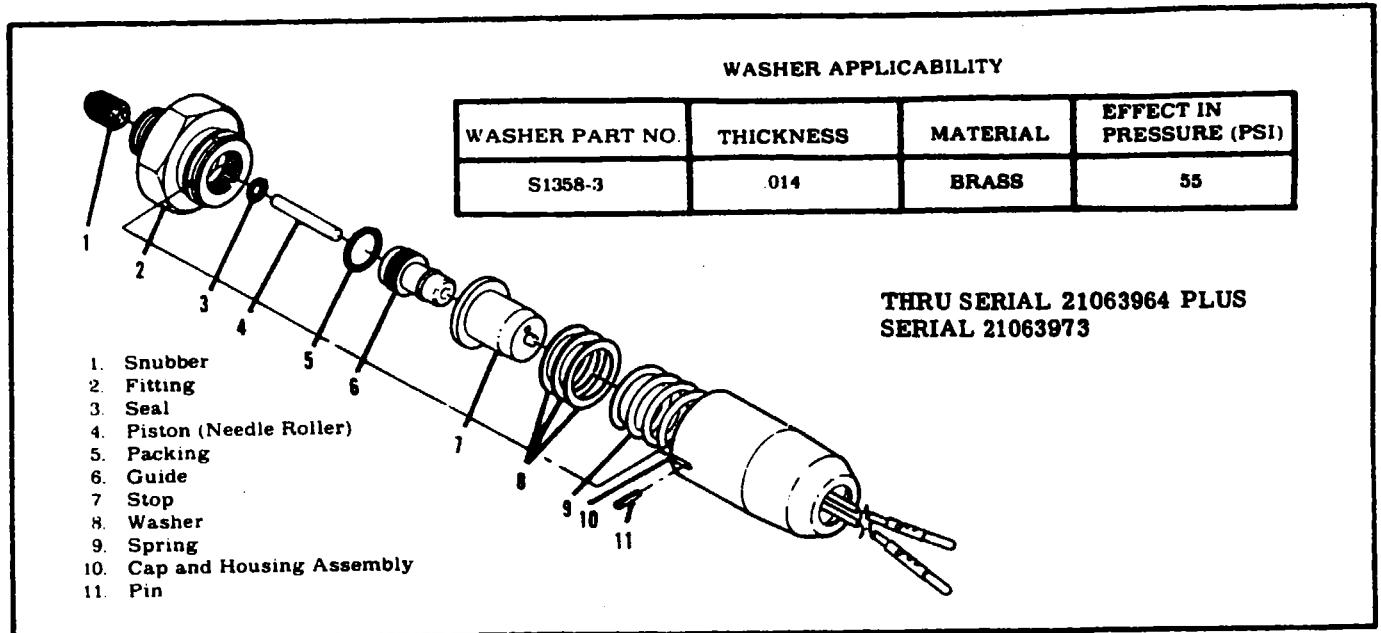

Figure 5A-5. Pressure Switch
Chart in figure 5A-5 lists washers (8) by part number, thickness and effect on operating pressure (psi).
- e. Unscrew guide (6) from fitting (2), do not damage lip of guide.
5A-21. INSPECTION AND REPAIR. (Refer to figure 5A-5.)
5A-22. REASSEMBLY. (Refer to figure 5A-5.)